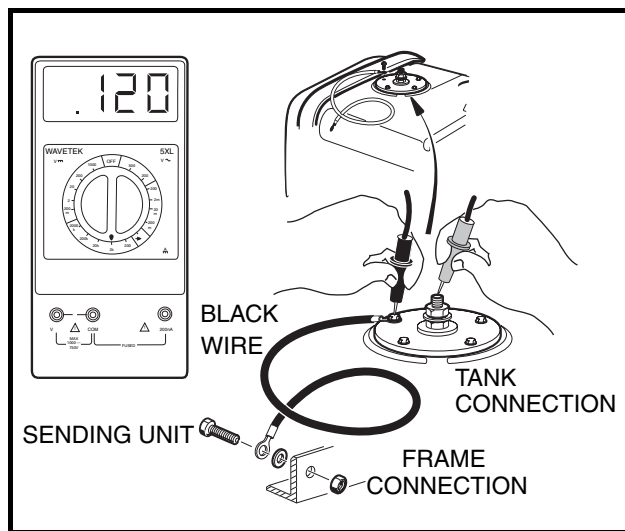

Figure 11-36 Test Fuel Level Sending Unit
4. With a multimeter set to 2k ohms, place the red (+) probe of the multimeter on the center post of the sending unit. Place the black (–) probe on the ground connection of the sending unit (**Figure 11-36, Page 11-34**).